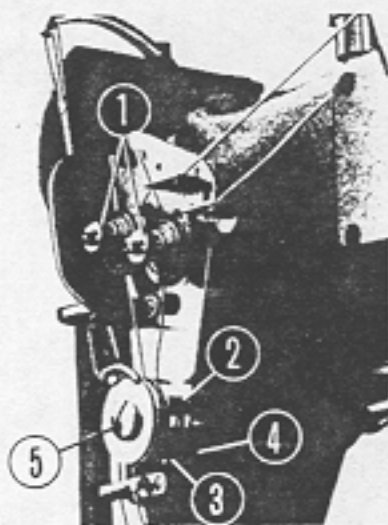

Fig. 10
The tension on the needle threads is regulated by the two thumb tension nuts (1), Fig. 10. To increase the tension, turn these tension nuts over to the right; to decrease, turn to the left.
To regulate the movement of the take-up spring, it is necessary to move the take-up spring adjusting plate (Fig. 10 (2)) by loosening the screw (Fig. 10 (3)). To increase the motion of the take-up spring, move this plate to your right. To decrease the motion, move it to your left. When the adjustment is completed, tighten the screw.
To increase the tension of the take-up spring, loosen the screw (Fig. 10 (4)) which is plugged in, in the arm under the take-up spring guide disc, and by inserting a screw driver gently into the groove at the tip of the take-up spring pin (Fig. 10 (5)), turn it to your left. To decrease the tension, turn it to your right. After the adjustment, tighten it securely.